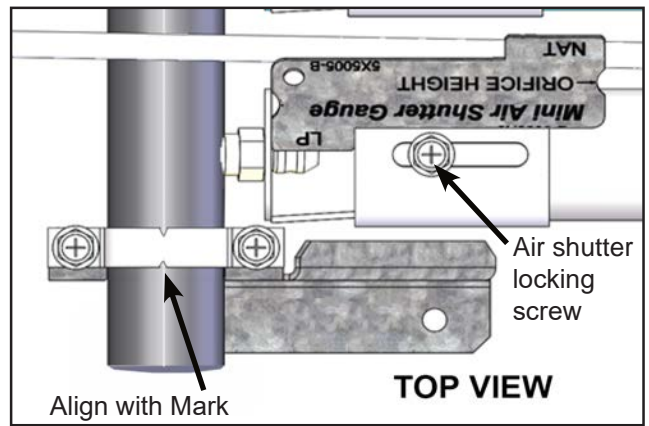
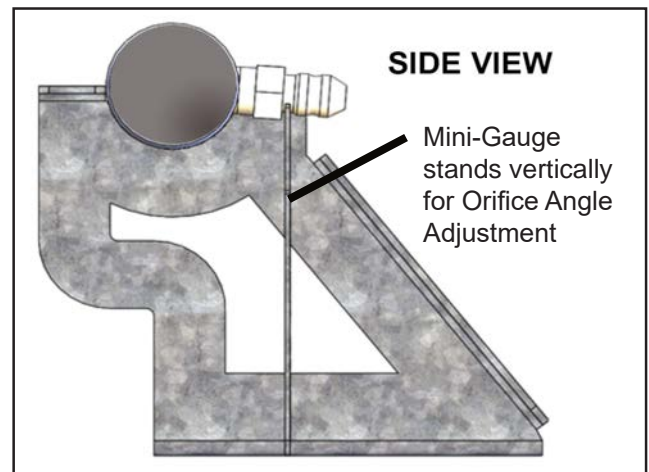

Figure 40. The Mini-Gauge for Shutter Adjustment
Figure 41. The Mini-Gauge for Orifice Adjustment
8. Observe the main flame pattern on all burners. There should be minimal pulsing, unstable or lifting flame patterns. For any abnormal flame, check gas pressures and orifice alignment. If the gas pressures and orifice alignments are good, then the air shutter needs to be adjusted. On all burners exhibiting an abnormal flame, use a 5/16 inch wrench to loosen (do not remove) the air shutter locking screw. Slowly close or open the air shutter until a normal flame is observed then re-tighten its associated locking screw. If returning to factory setting is desired, measure one of two ways. 1-Measure. Factory setting is .75" from shutter to burner orifice mounting plate. 2-Use the Mini-Gauge to set to factory starting point. See Figure 40 and Figure 41.